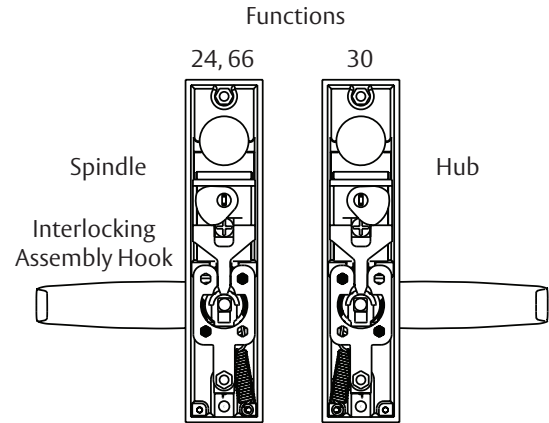

Figure 16
1. Unscrew the lower thru-bolt stud (11) with a 3/8" wrench.
2. Remove mounting plate (6) and mounting posts.
3. Switch mounting posts (7) so they occupy the opposite positions on the mounting plate (6).
4. Note the original position of the extension spring (16) and lower plate (9) in the escutcheon (14). Unhook the extension spring from pin (13).
5. Remove spring (16), lower plate (9) and locking hub (8) assembly together.
6. Detach extension spring (16) from lower plate (9) and locking hub assembly (8).
9. Unscrew cap screw w/spacer (12) using a 5/32" Allen wrench.
11. Rotate lever to position shown in Figure 16 for desired hand.
12. Tighten retaining nut (10) firmly by hand and then back off one notch until pattern appears.
13. Attach bottom of spring (16) (closed loop) to pin (13). Hold lever horizontal while inserting locking hub assembly (8) and lower plate (9) into retaining nut (10) escutcheon with lower thru-bolt stud (11).
14. Refer to Figure 16: Position hub (4) for required function and hand, and ensure that spindle (5) is vertical. Note position of interlocking assembly hook when positioning hub.